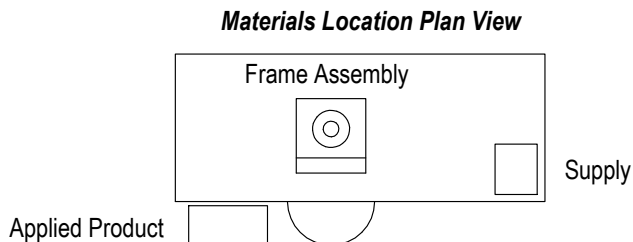

Figure 2
Figure 2 illustrates a typical plan showing the convenience of handling materials afforded by the proper setup.
7. If the instruction sheet for the tooling assembly specifies an open height setting for the frame assembly, adjust the up-travel threaded stud (see Figure 2) *clockwise* to lower the ram open height and *counter-clockwise* to raise the ram open height (one full turn of the stud equals 1.27 [.050] of ram height movement). Disconnect the air supply as described in step 1 of Section 3 while measuring and adjusting the ram height. Re-connect the air after each adjustment to make sure that the ram is in the full up position, then disconnect the air again for measurement.